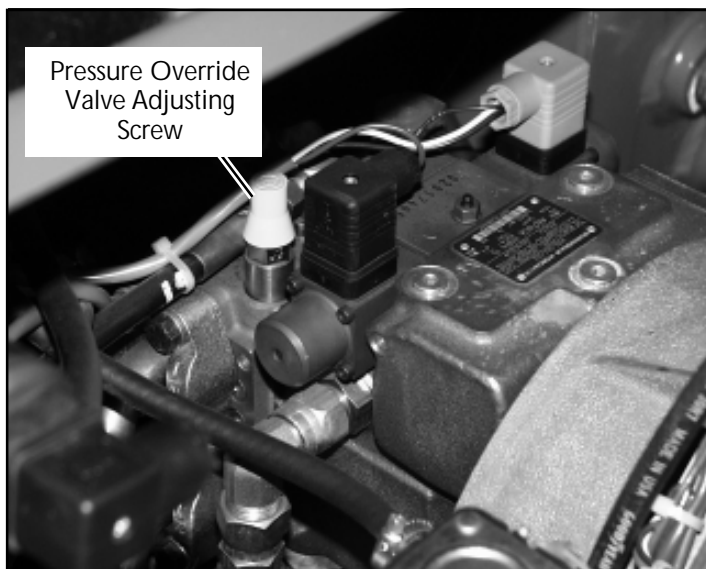

Figure 3-12: Pressure Override Valve
3.10 Drive Pump Settings (Figure 3-12)